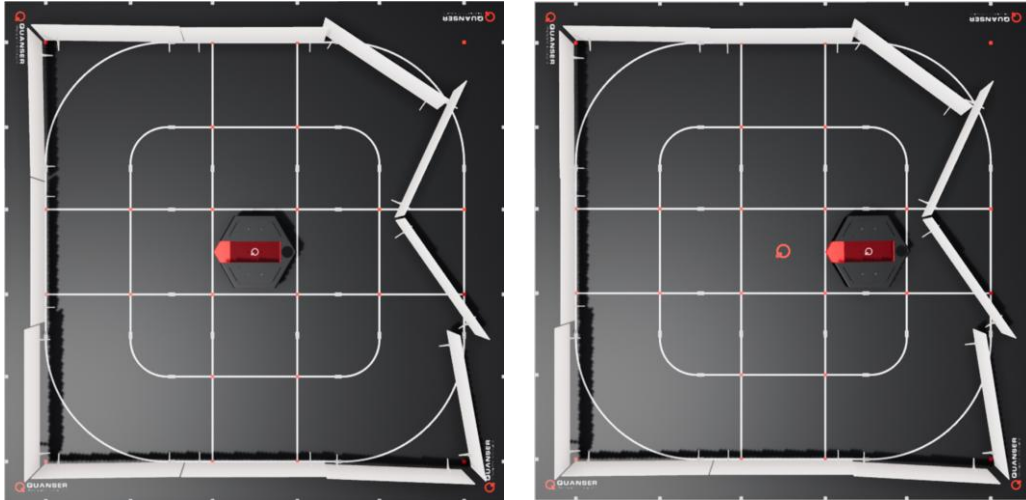

Figure 3. Top view of QBot in location A (left) and location B (right)
2. Consider a situation, shown in Figure 3 below, where the QBot: